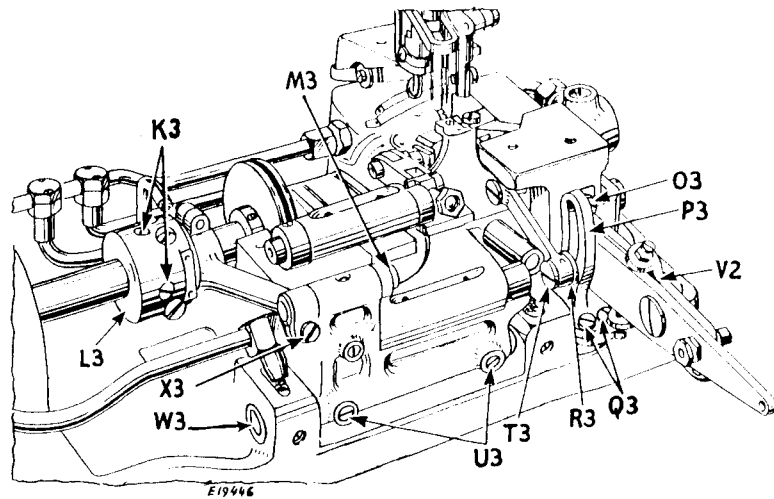

Fig. 34. Removing Feed Mechanism
See Fig. 34
Remove the presser foot and the throat plate. Remove the work plate as instructed on page 16. Take out the two screws O3, only one of which is visible in Fig. 34. Remove the feed regulator bracket and lever V2.
**CAUTION** -When replacing, centralize the feed dog and gathering feed in the slots in the throat plate, as instructed on pages 25 and 26. Make sure that the two screws U3 engage the flats on the shaft W3. When connecting the gathering feed link to the regulator P3, see that the small washer R3 is in place on the screw stud T3, as shown in Fig. 34 and that the tension spring is attached to the stud at the inner end of the feed regulator lever V2 and to the stud in the machine bed.